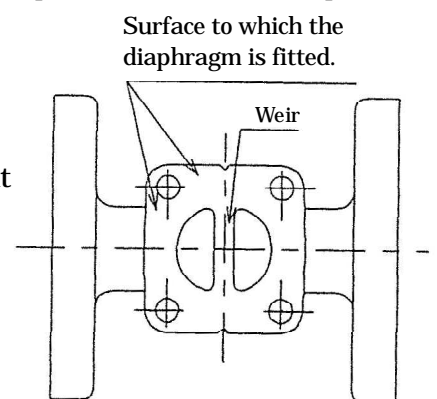

Fig. 1
- (4) Clean the weir of the valve body and the surface to which the diaphragm is fitted with a clean cloth. When there is any adhesion of foreign matters, remove them by lightly polishing the surface with sand paper. (Fig. 1)